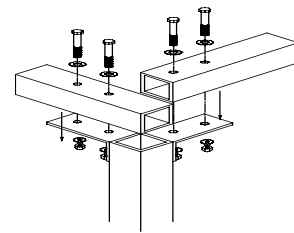

Figure 2:
- b. The shorter cross beam typically sits on a corner support flange. (See figure 2)